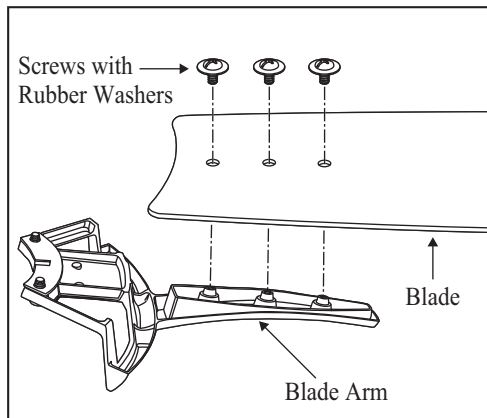

Figure 16
1. Attach blades to blade arm using the screws and rubber washers provided. (Fig. 16) Start a screw into the blade arm, do not tighten. Repeat for the remaining screws and washers.